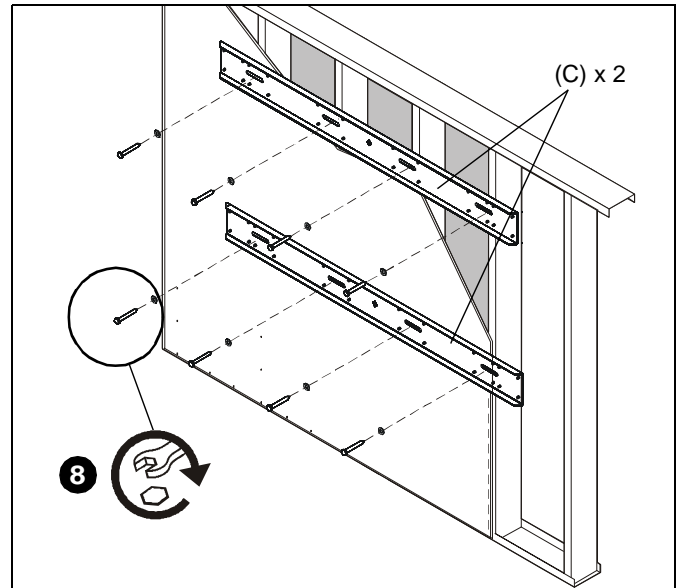

Figure 2
8. Secure horizontal brackets (C) to studs using appropriate hardware for mounting surface. (See Figure 2)